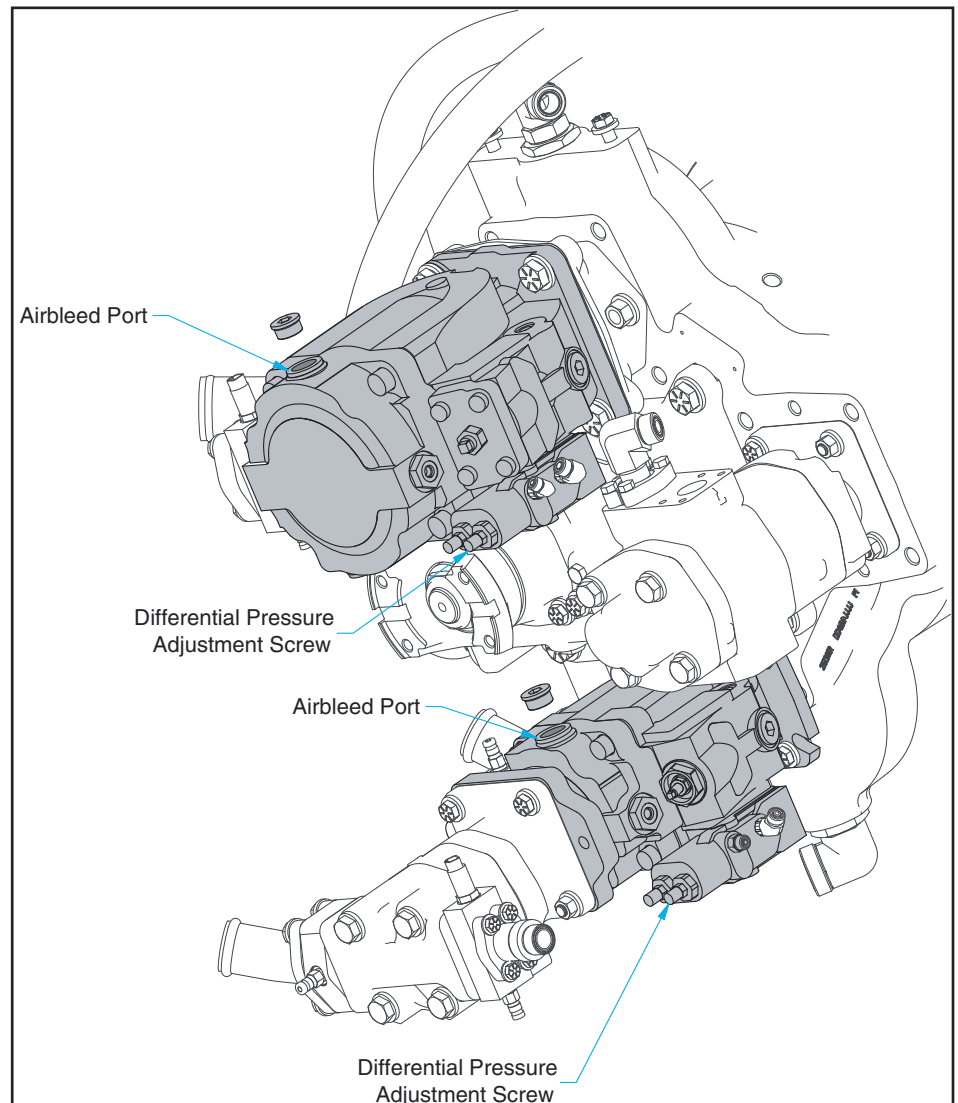

Figure 1 Typical Power Unit With Parker P3 Piston Pumps
Air must be bled from the piston pump before putting it back into service. See Figure 1 for a typical power unit with two Parker P3 piston pumps installed.
2. Remove the plug in the airbleed port. See Figure 1.
2. Remove the plug in the airbled port. See Figure 1.
3. See Figure 1. Loosen the jam nut, and turn the differential pressure adjustment screw until the standby pressure is within the range shown in the operating specifications.